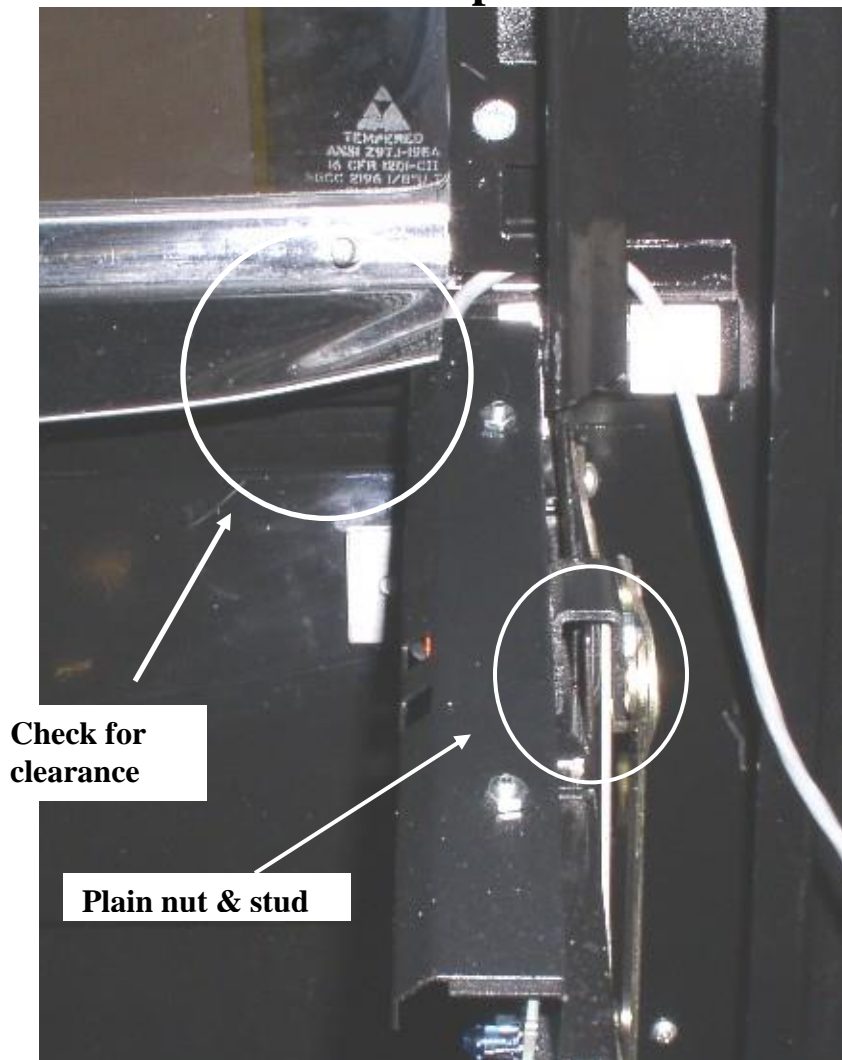

Figure 2 (Typical representation)
3) Install sensor bracket assembly on stud, with plain hex nut, at edge of delivery bucket. Tighten nut and ensure sensor bracket assembly is not tilted or twisted. **Note: After sensor bracket assembly is secured. Check deflector and bracket clearance. Deflector CAN NOT be pressing down on sensor bracket assembly. (Figure 2).**